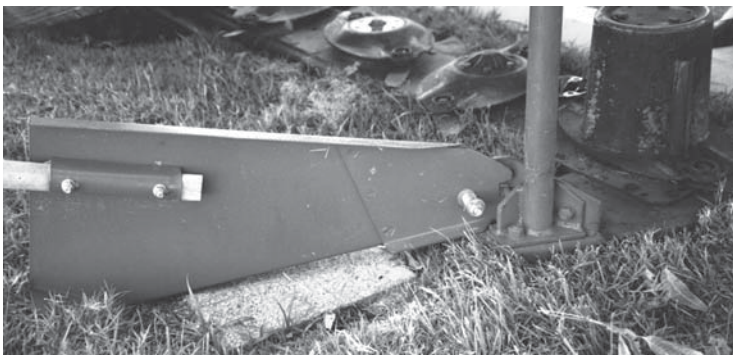

Figure 17
The Swath Board (W) is located on the outer end of the cutter bar. The swath stick can be positioned at three settings to handle different crop conditions such as long, short or flattened crops. Remove the front bolt (Y), move the swath stick to the desired position and reinstall the bolt in the new hole. (See **Figure 17.**)